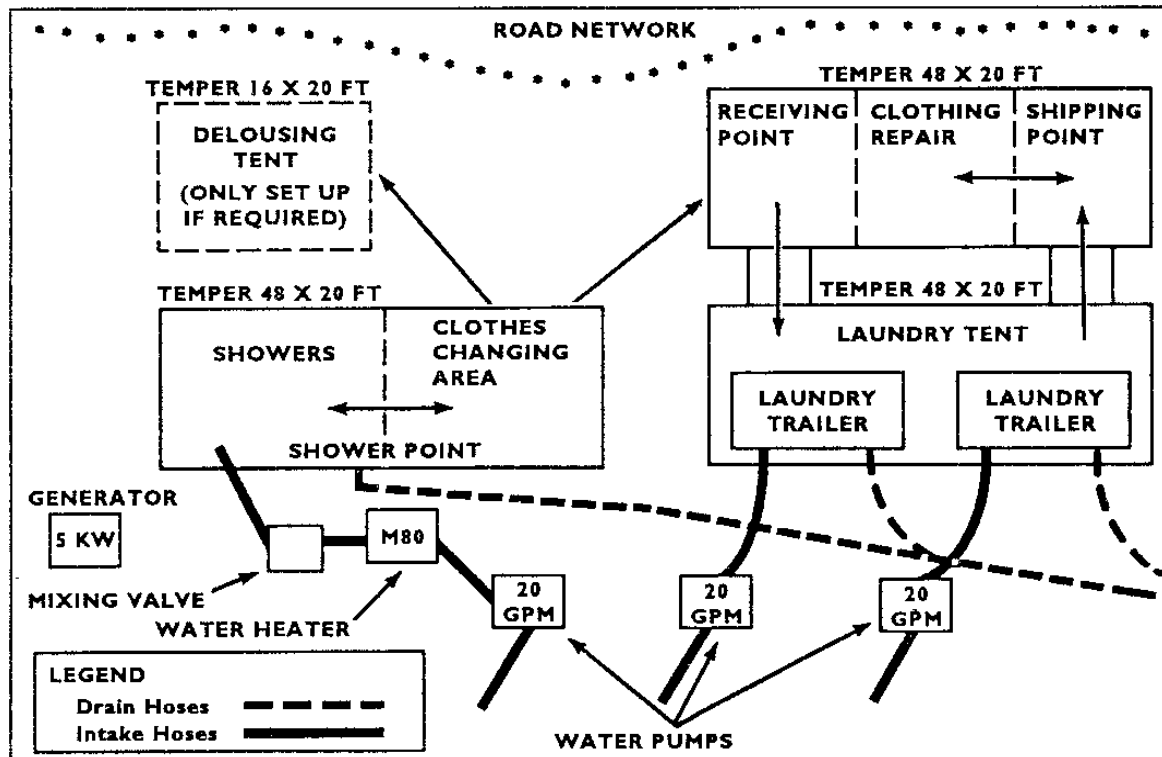

Figure 3-7. Suggested composite site layout for one SLCR section/team operations under TOE 10414L0
- S/L collocation layout. Each S/L setup requires GP medium tents or necessary TEMPER or modular tents. These GP tents or TEMPER/modular tents are joined together. Two GP medium tents or one 48- by 20-foot TEMPER will support showering and clothes changing needs. Laundry operations will be set up in either one GP large tent or one 48- by 20-foot TEMPER. Refer to Figure 3-7 (page 3-19) for layout scheme.